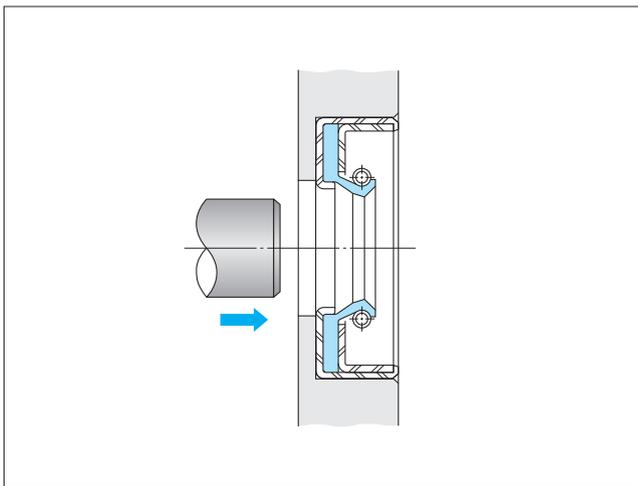

Fig. 7-14 Shaft Assembly Direction
- 3 Insert the shaft in the direction indicated in Fig. 7-14.